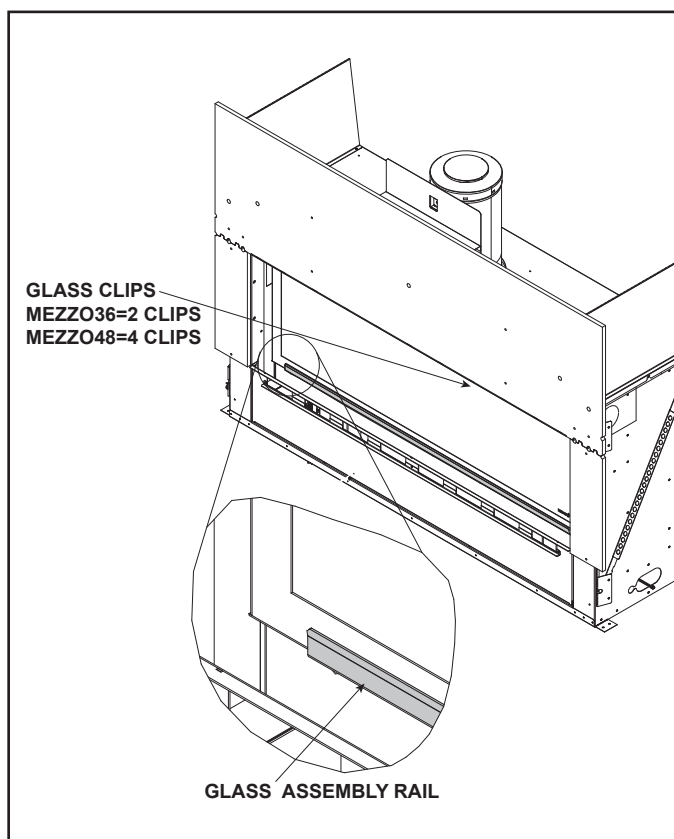

Figure 4.1 Fixed Glass Assembly
2. Locate the glass spring latches that are on the upper edge of the glass frame of the appliance. See Figure 4.1.
3. Use both index fingers to release spring latches. See Figure 4.1.